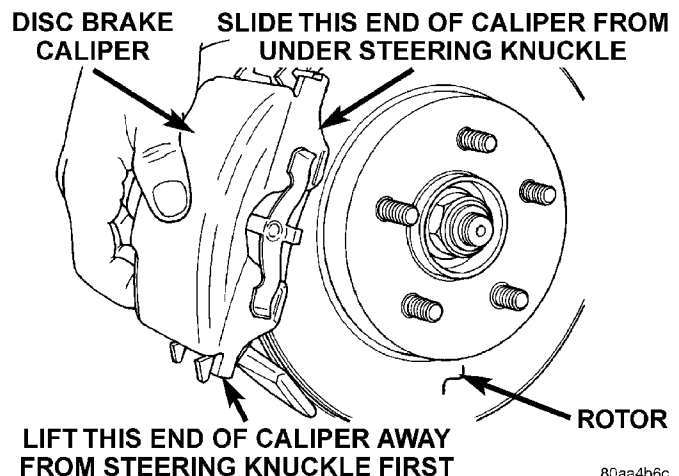

Fig. 59 Removing Caliper From Steering Knuckle
(4) Remove brake caliper from steering knuckle, by first rotating free end of caliper away from steering knuckle. Then slide opposite end of caliper out from under machined abutment on steering knuckle (Fig. 59).